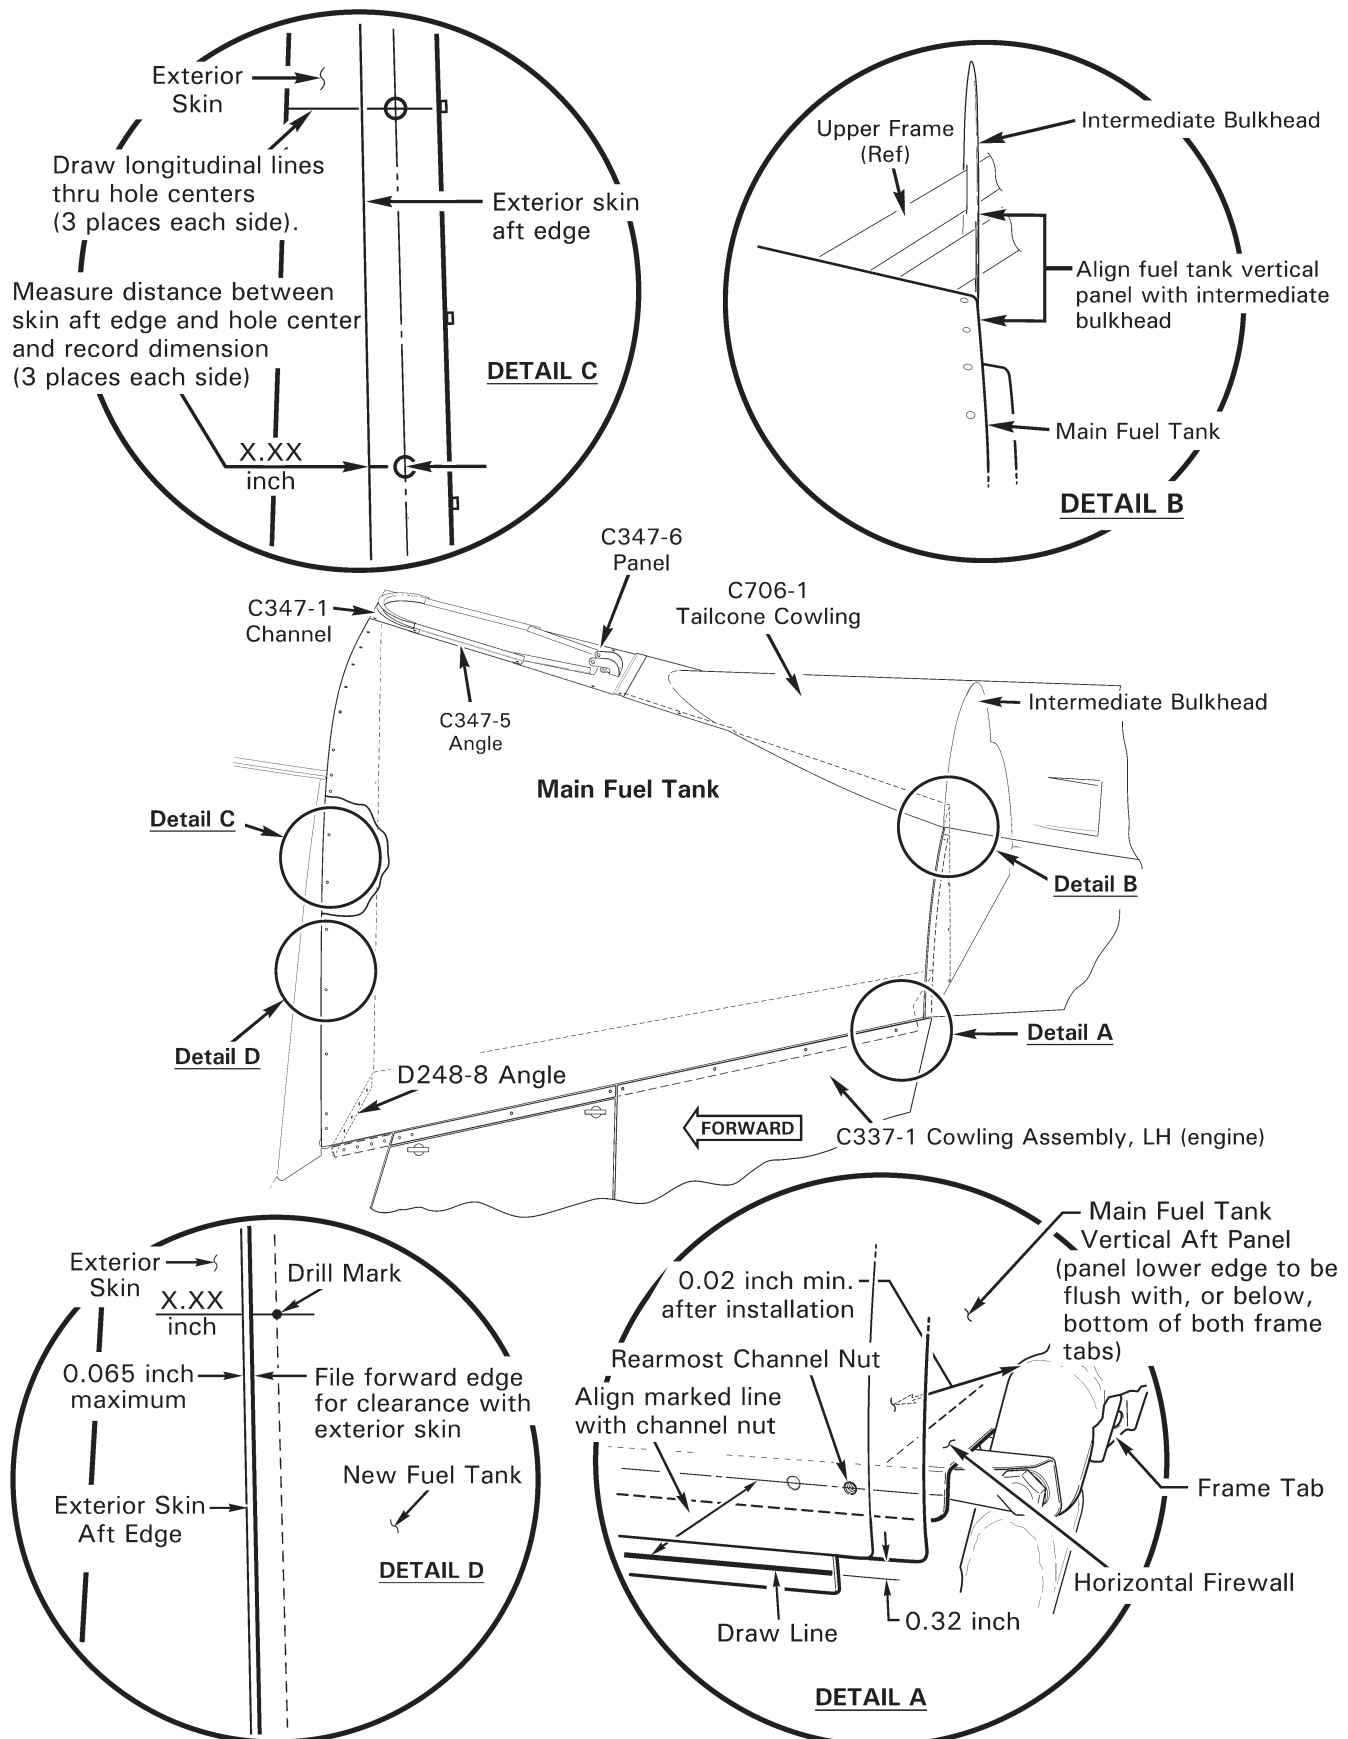

FIGURE 12-3 MAIN TANK REPLACEMENT
2. Refer to Figure 12-3, Detail C. Draw longitudinal lines from center of three bulkhead channel nut holes onto exterior skins. Measure and record distances as shown.
4. Refer to Figure 12-3, Detail A. Mark tank bottom flange with a line 0.32 inch below and parallel to tank skin.
6. Align marked line with rearmost channel nut on horizontal firewall flange per Figure 12-3, Detail A. Align tank vertical panel with intermediate bulkhead per Detail C. Secure tank position by clamping panel to frame tabs.
8. Refer to Figure 12-3, Detail D. Estimate material to be removed for fitting tank forward edge with cabin exterior skin aft edge; file or cut tank to create a gap of no more than 0.065 inch between tank and skin. Deburr trimmed edge with 220-grit or finer wet-or-dry aluminum oxide abrasive paper.
5. Refer to Figure 12-3, Detail D. Estimate material to be removed for fitting tank forward edge with cabin exterior skin aft edge; file or cut tank to create a gap of no more than 0.065 inch between tank and skin. Deburr trimmed edge with 220-grit or finer wet-or-dry aluminum oxide abrasive paper.